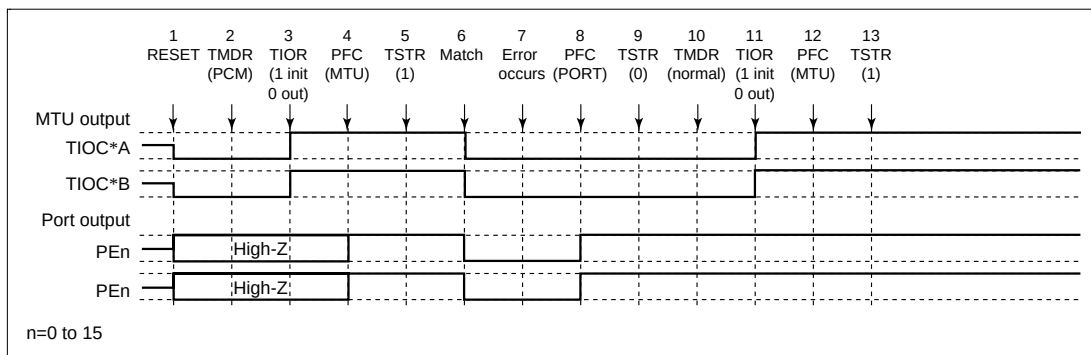

**Figure 12.112 Error Occurrence in Phase Counting Mode, Recovery in Normal Mode**
**(17) Operation when Error Occurs during Phase Counting Mode Operation, and Operation is Restarted in Normal Mode:** Figure 12.112 shows an explanatory diagram of the case where an error occurs in phase counting mode and operation is restarted in normal mode after re-setting.
1 to 9 are the same as in figure 12.112.